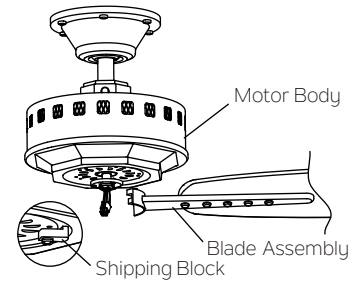

Fig.17
Step 2. Remove the shipping blocks from the bottom of the motor body and discard. Fasten blade assembly to the holes located on the bottom of the motor body. Tighten the two "pre-installed" motor screws in the blade arm. Repeat steps for the remaining blades assemblies. (Fig. 17)